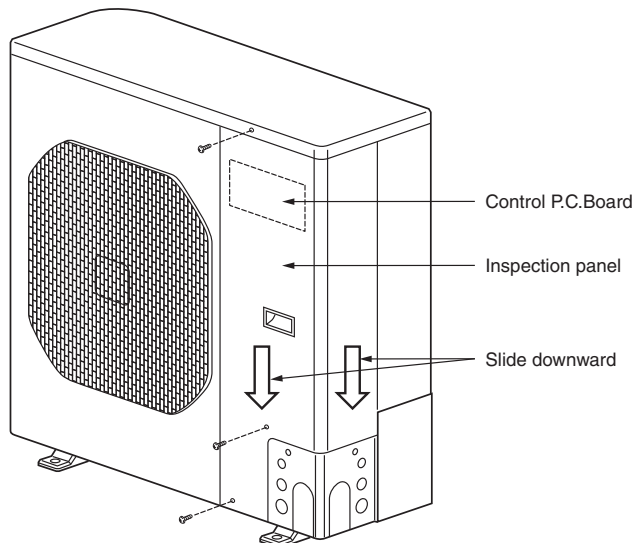

Fig.2 View from front
- (1) Remove the 3 screws fixing the inspection panel and remove the inspection panel. (Fig. 2)
Refer to Fig. 2 in "Noise Reducing Control" for details.